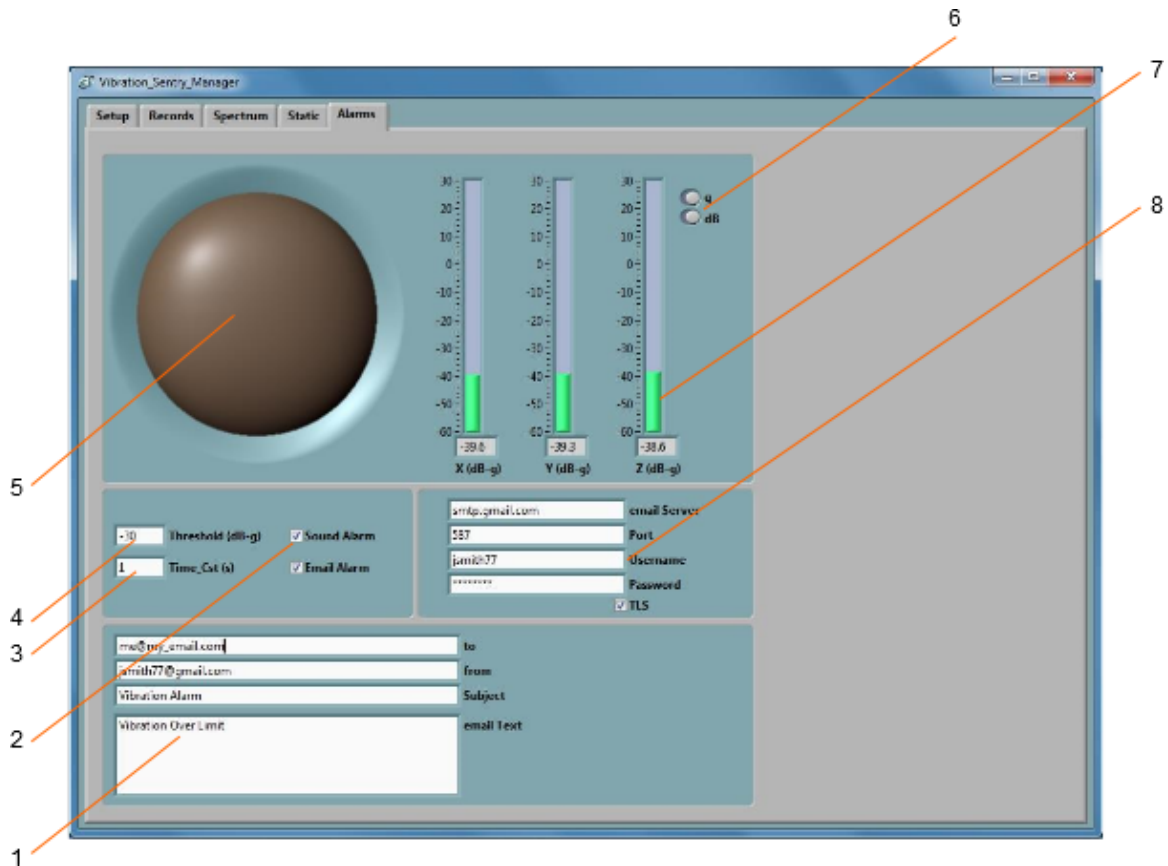

Figure 9 Alarms Tab
- **The Alarm Tab:** Is used to setup audible and email alarms. The PC must stay connected for the alarms to work (see Figure 9).